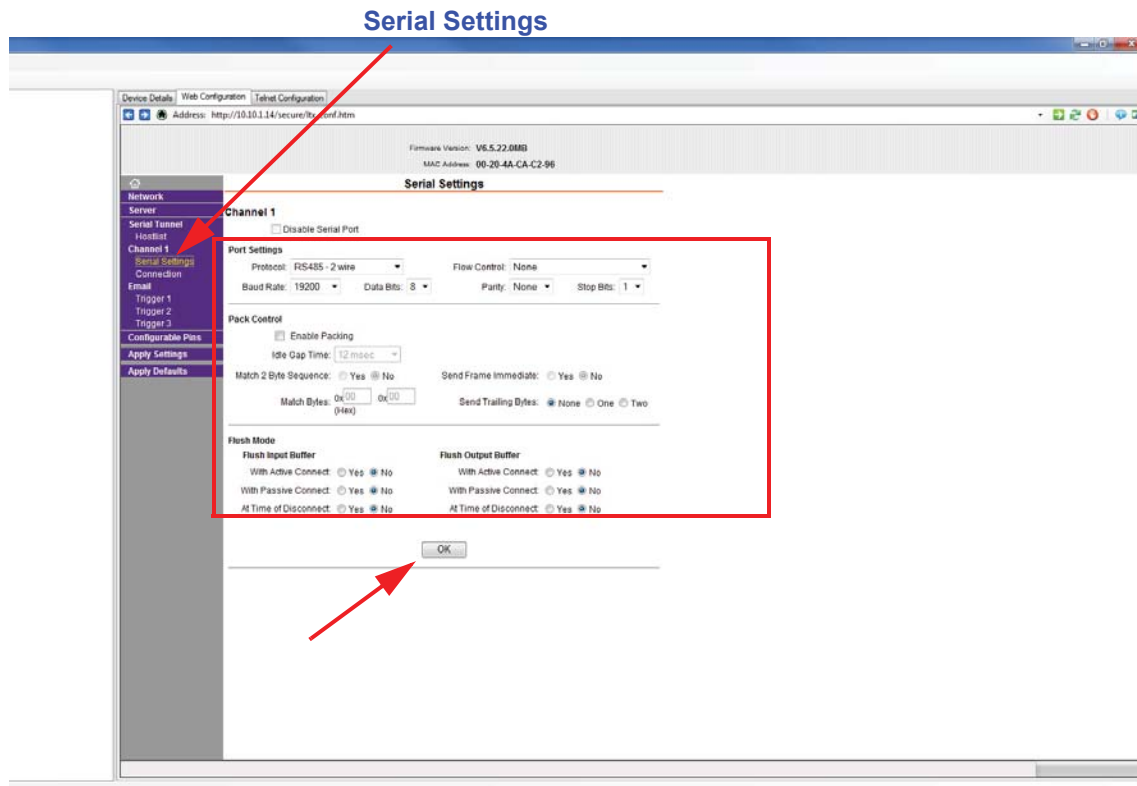

Figure 4-9 Serial Settings
5. Select **Serial Settings** under **Channel 1**. See Figure 4-9. Verify that the Port Settings are set to the following: